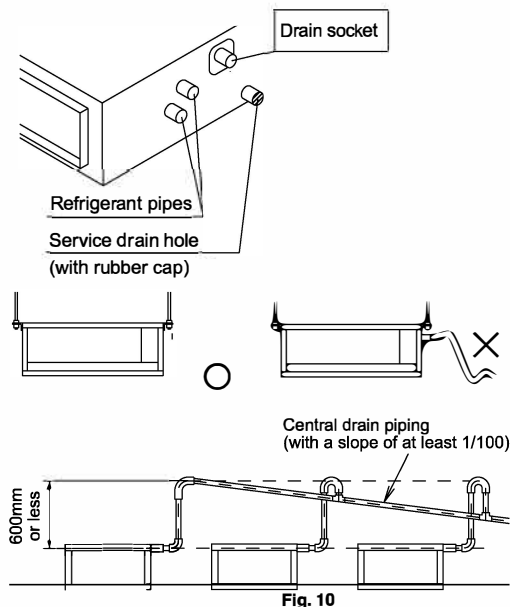

Fig. 10
(1) Install the drain piping
- Keep the drain piping short and sloping downwards at a gradient of at least 1/100 to prevent air pockets from forming.(Refer Fig. 10)
- Do not twist or bend the drain hose (2), so that excessive force is not applied to it. (This type of treatment may cause leaking.)
- If you are using central drain piping, follow the procedure outlined in the figure 10.
(2) After piping work is finished, check drainage flows smoothly, with manner described below.